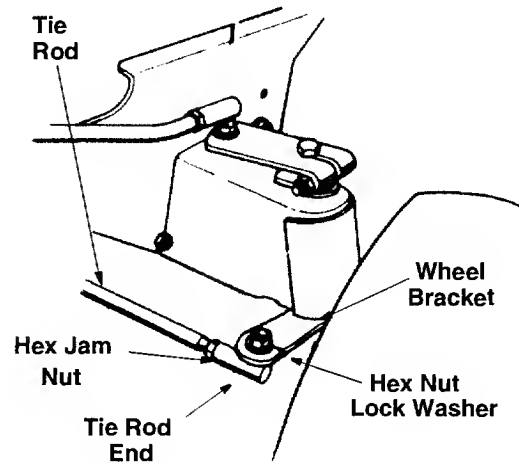

Figure 28
1. Remove the hex nut and lock washer, and drop the end of the tie rod from the axle bracket. See Figure 28.